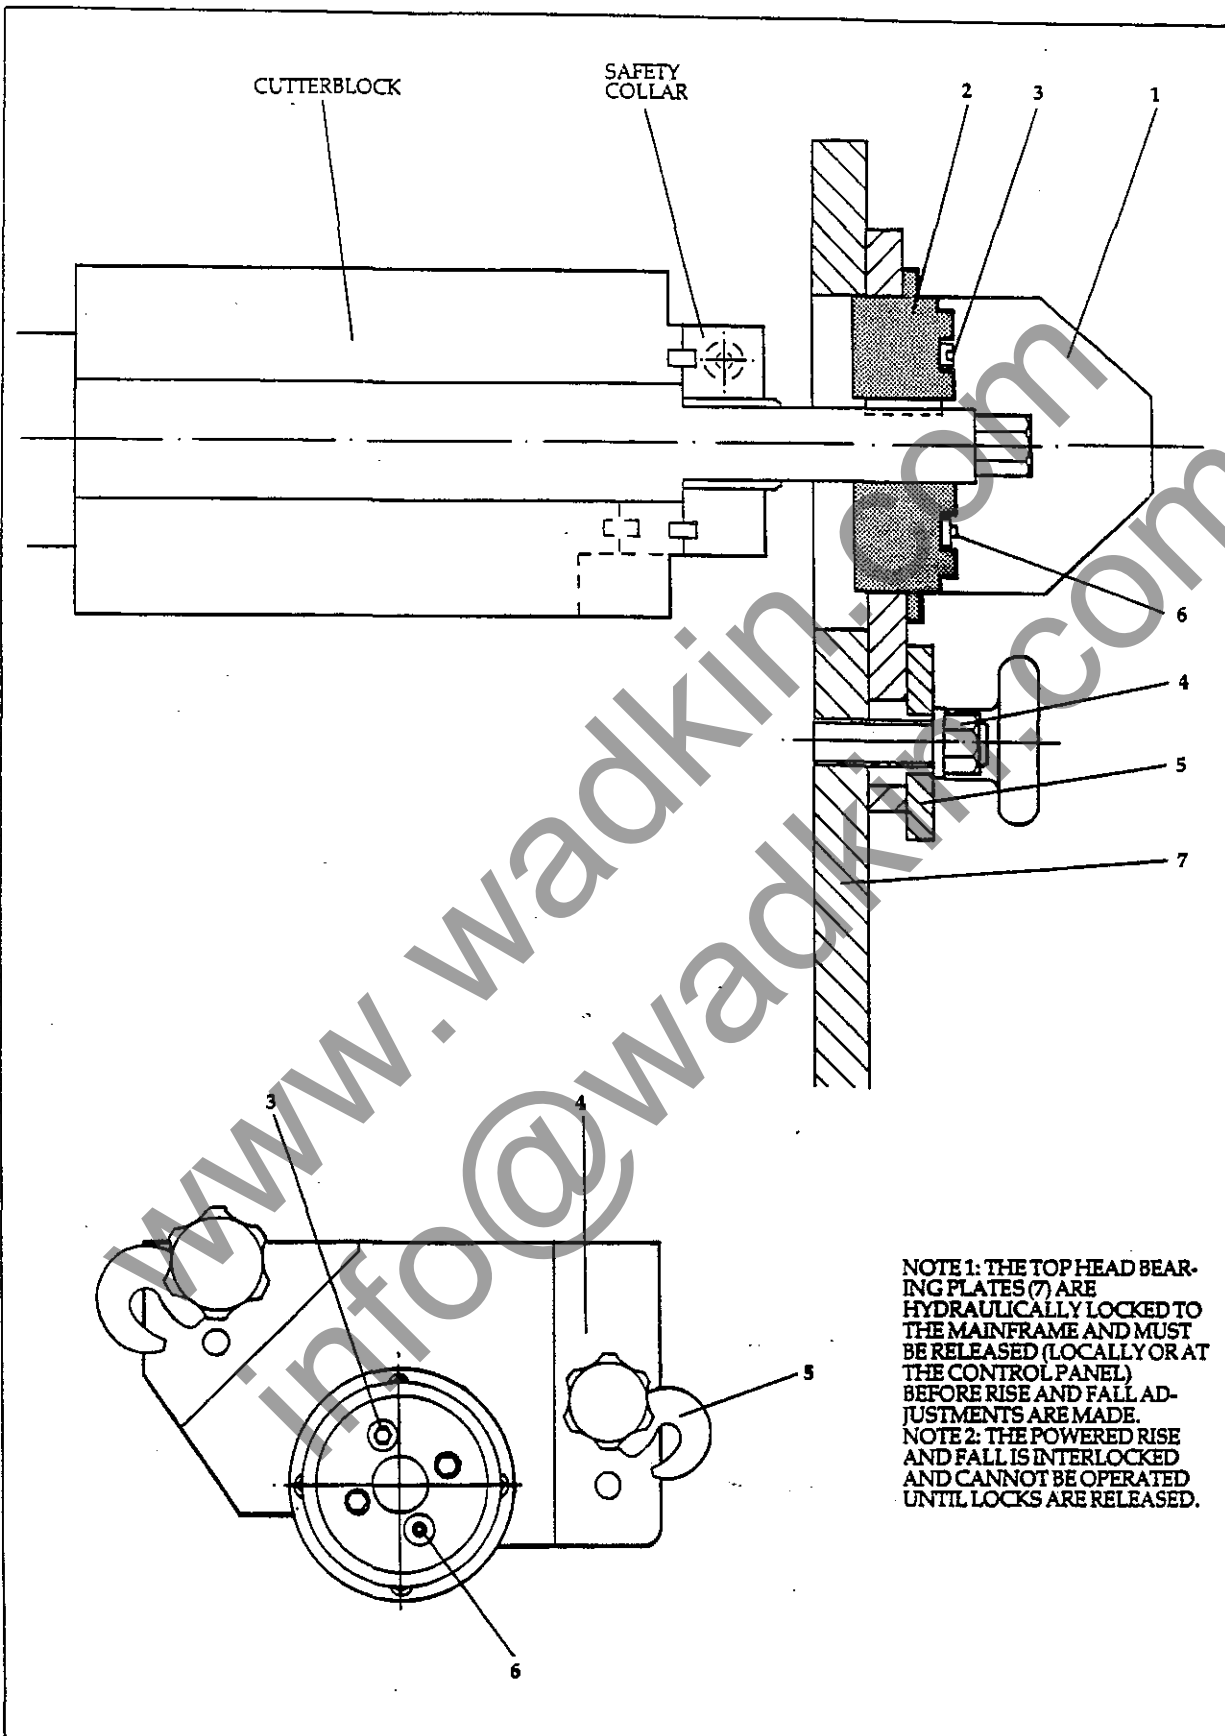

FIG 3 OUTBOARD BEARING ASSEMBLY
To Change Cutterblocks (Figs 3, 4, 5)
Outboard bearings (Fig 3)
- (4) On plain bore cutterblocks. Tighten the block to the spindle with the spanner/s provided.
- (5) After fitting the cutterblock, replace the outboard bearing assembly and pressurise the bearing to 500bar hydraulically. (see Fig 3).
- (6) Turn the spindle slowly to ensure the cutterblock is free and replace cover.
- (7) Operate the spindle for a short period to ensure it rotates freely and without vibration.